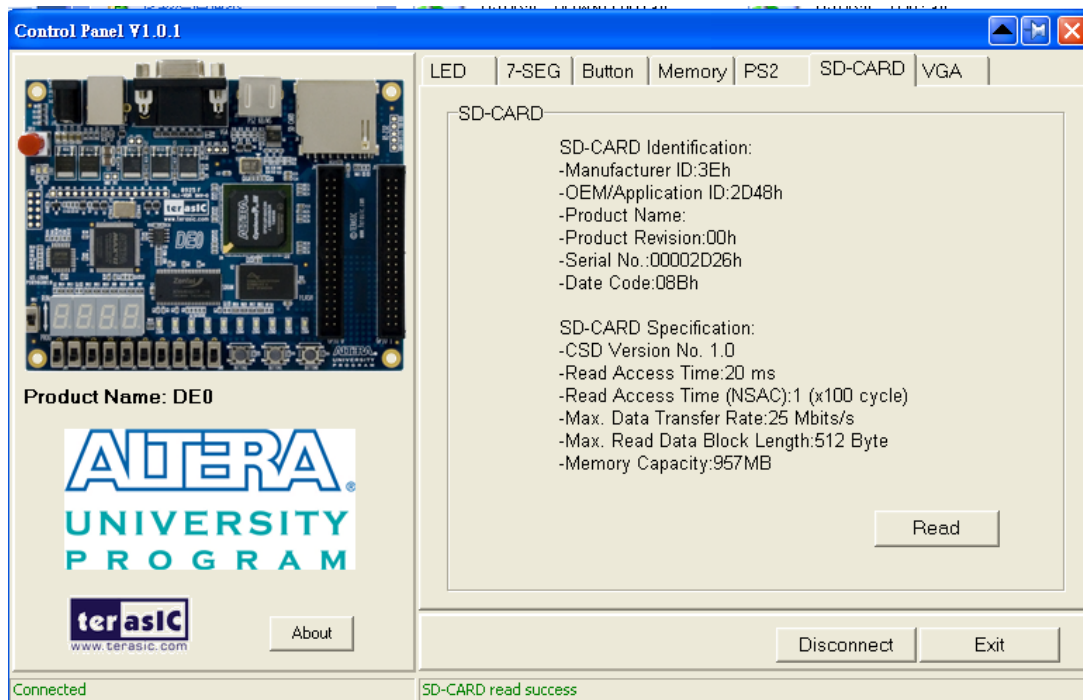

Figure 3-9. Reading the SD card Identification and Specification
1. Choosing the **SD-CARD** tab leads to the window in Figure 3-9.